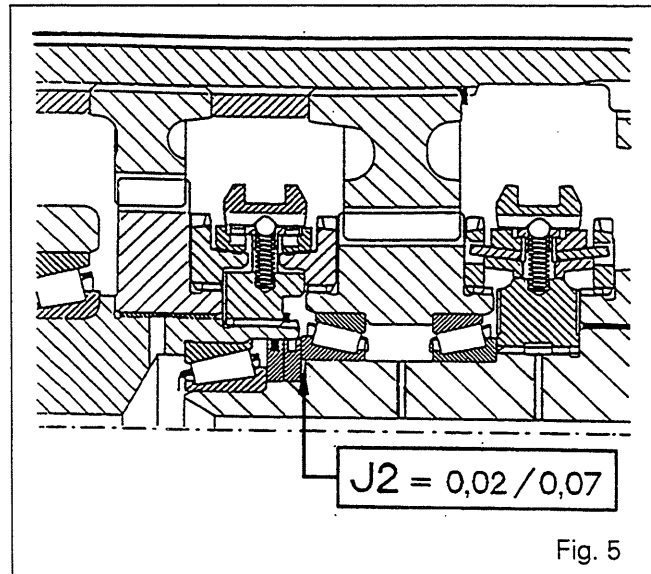

Fig. 5
11. Shim (Fig. 5) to obtain a clearance of: